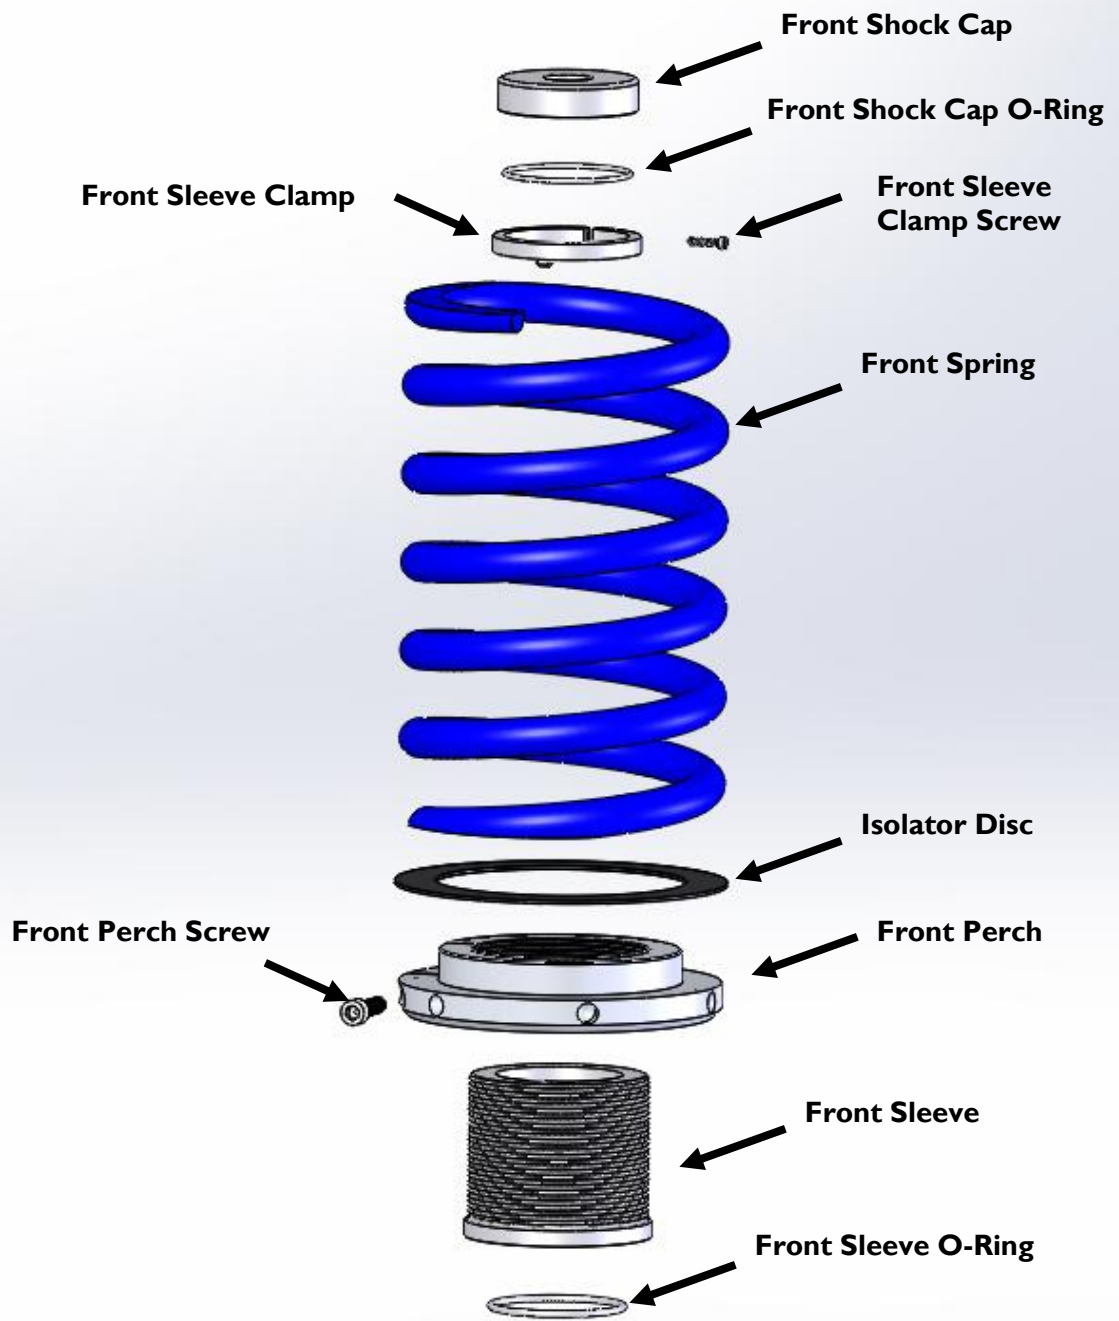

Figure 7
12. Referring to Figures 7, 8, and 9, install an isolator disc, Dinan front spring, and Dinan bumpstop onto the shock assembly (bumpstop not shown for clarity). Add a packer disc if noted in the bumpstop clearance chart at the beginning of these instructions.